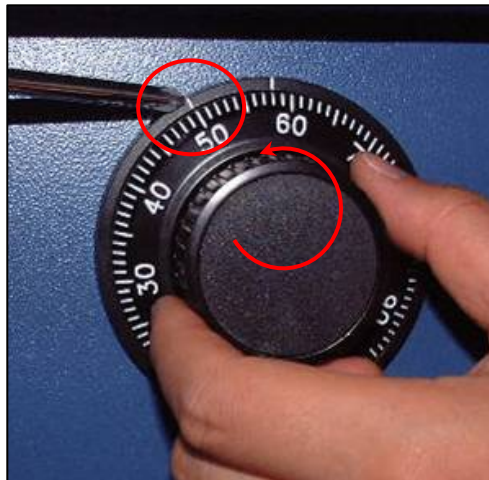

Fig.1
3. Turn to the counterclockwise for more than four times and set to "50" at left scale indicator as shown in the Fig.1.